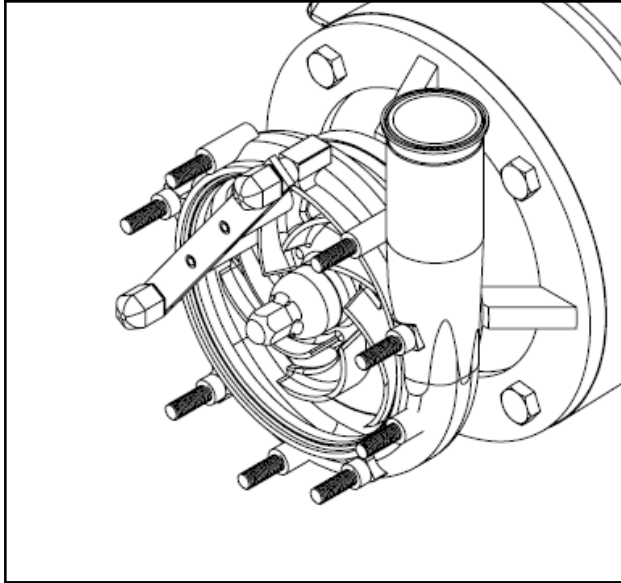

Figure 21
13. Put the impeller stop tool over two casing studs as shown to hold the impeller while tightening the impeller screw. Torque the 15/16" impeller screw to 40 ft-lbs, Figure 21.